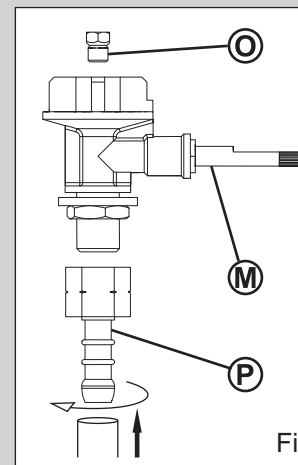

Fig. 4
Fit the Valve Tailpiece (P) onto the Valve (M) (Fig.4) by screwing it on in an anti-clockwise direction. Push an 8mm inside diameter Hose onto the Valve Tailpiece (P) until it is properly seated (See Fig.4). On the other end, attach a suitable low-pressure regulator I(3B/P(30)): 30mbar butane/propane configurations regulator; I3+ (28-30/37): 30mbar butane regulator or 37mBar propane regulator; I3B/P(37):37mbar butane/propane configurations regulators), Again making sure that the hose is well seated.
- I 3B/P (50) **Appliance category:** (AT, DE)
Screw a Hose with the correct threaded fittings on each end, onto the left hand 1/4" BSP thread of the Valve (O) (Fig.4). Attach a suitable 50mbar low-pressure regulator on the other end of the hose. The hose used must comply with DIN 4815 part 2 or equivalent.